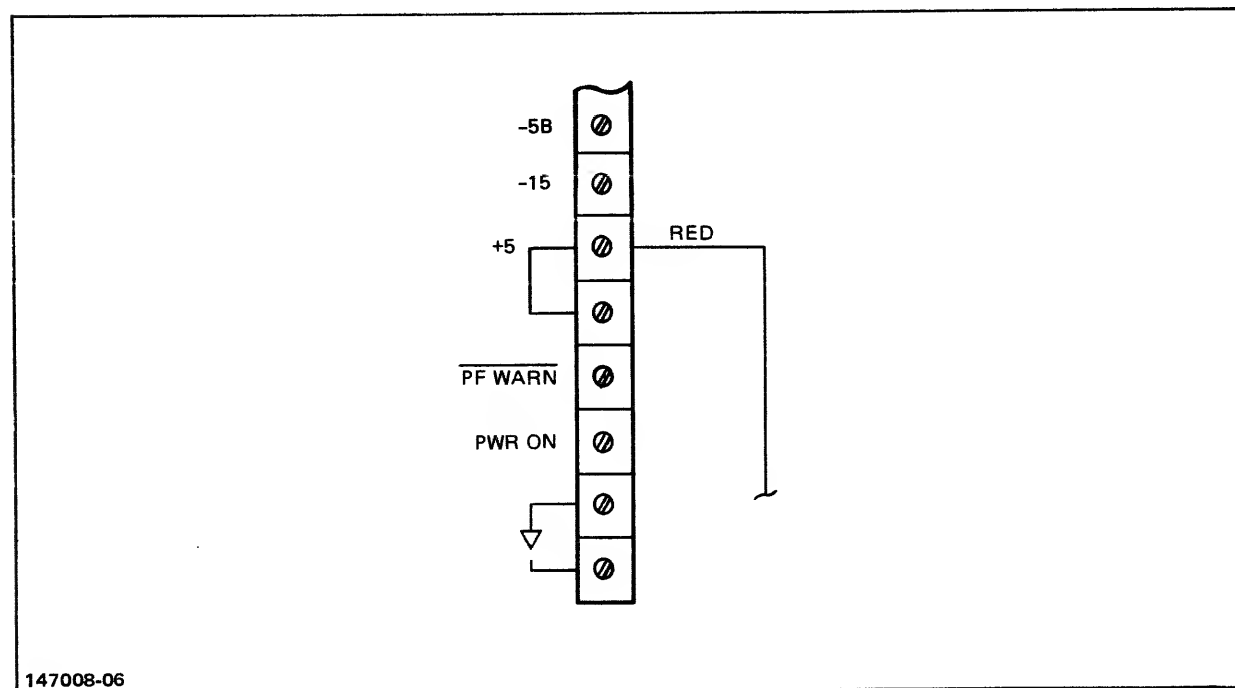

Figure 2-7. Power Bus Connection
6. At CPU Bay card cage No. 4, locate the red wire coiled and connected to the +5 terminal of the power bus. Disconnect this wire, route it through the cabinet side panel, and connect it to the +5 terminal of I/O Bay card cage No. 2. (See figure 2-7.)